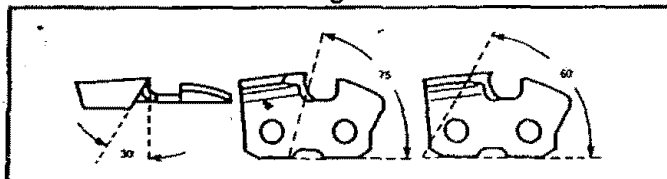

Figure 42
- f.) File 72SG chain to meet specifications shown in Figure 42.
Maintain the proper hook angle according to the manufacturer's specification for the chain you are using. Improper hook angle will increase the chance of kickback which can result in serious injury. Figure 42 & 44